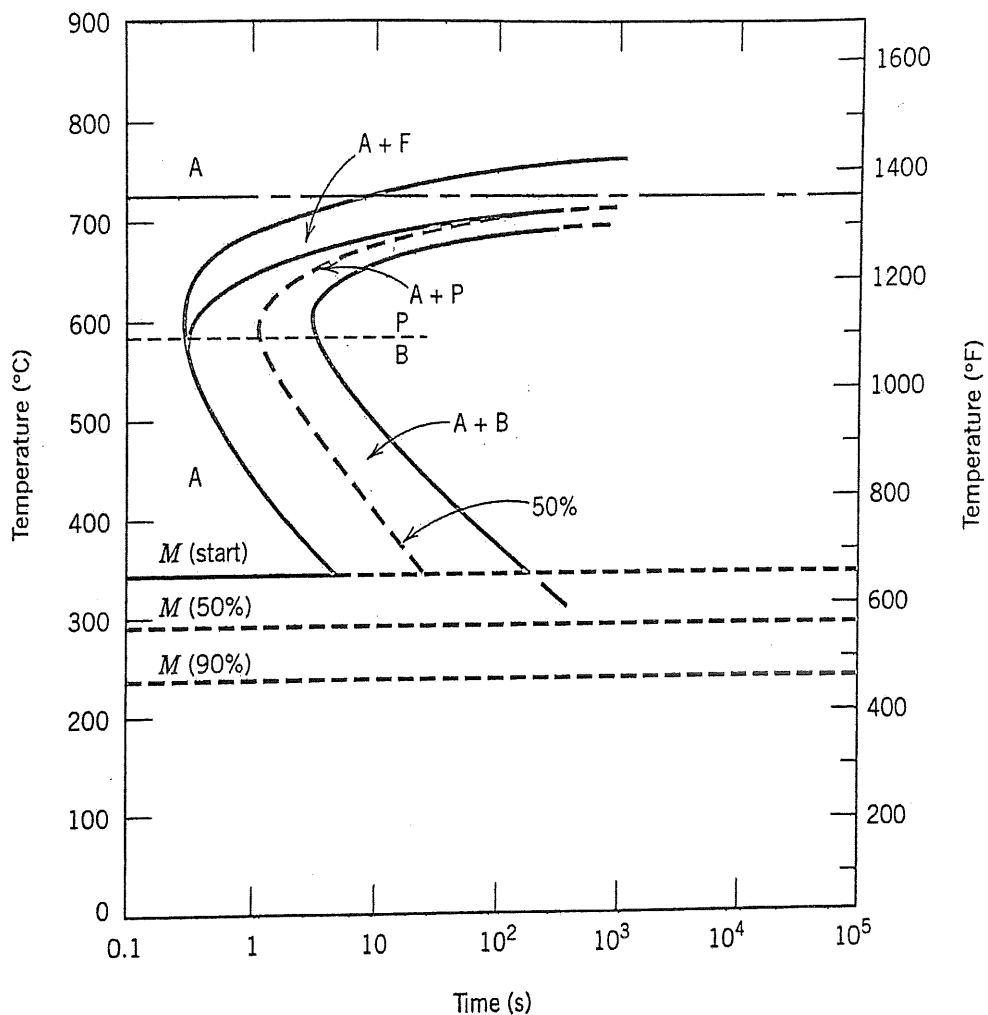

Figure 2: TTT diagram for 0.45 wt%C steel alloy
- c) Using the isothermal transformation diagram (Figure 2) for 0.45 wt%C steel alloy, illustrate the final microstructure present of a small specimen that has been subjected to the following time-temperature treatments. In each case assume that the specimen begins at 800°C, and that it has been held at this temperature long enough to have achieved a complete and homogeneous austenitic structure.